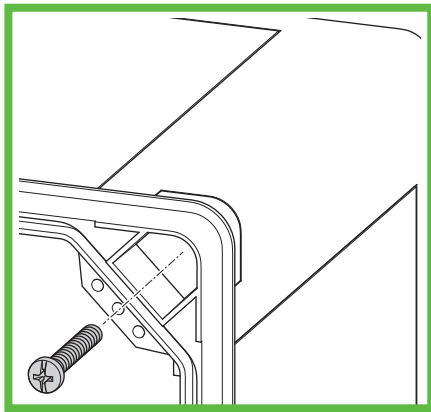

Figure 7: Mount the charging station on the wall
- ▶ Screw the charging station tight by screwing one screw each through the boreholes (Abb. 7).